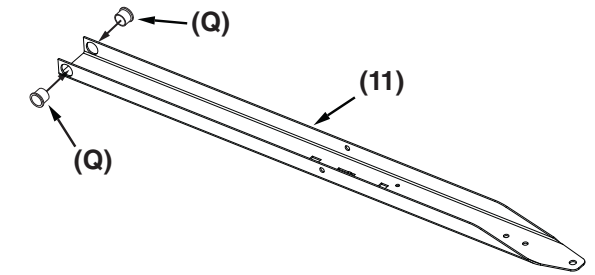

Figure 7
**STEP 7 (SEE FIGURE 7):** Insert two flanged bearings (Q) into the tongue (11) as shown below.